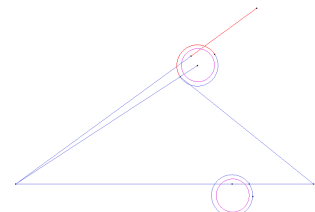

Figure 12. Intersecting lines
- 9 . Then continue selecting to make an intersection between the upper circle and the farthest segment of the line that was rotated 36 degrees (see Figure 12).